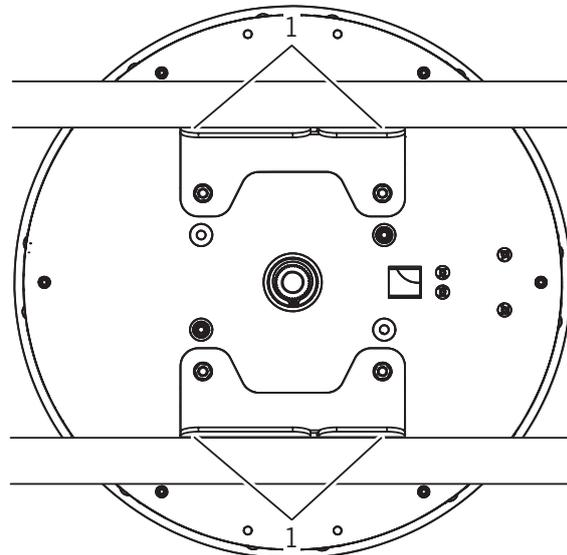

Fig. 76 Operator angle bracket
1. Slightly loosen the angle bracket (Fig. 76/1) of the operator (Fig. 76).